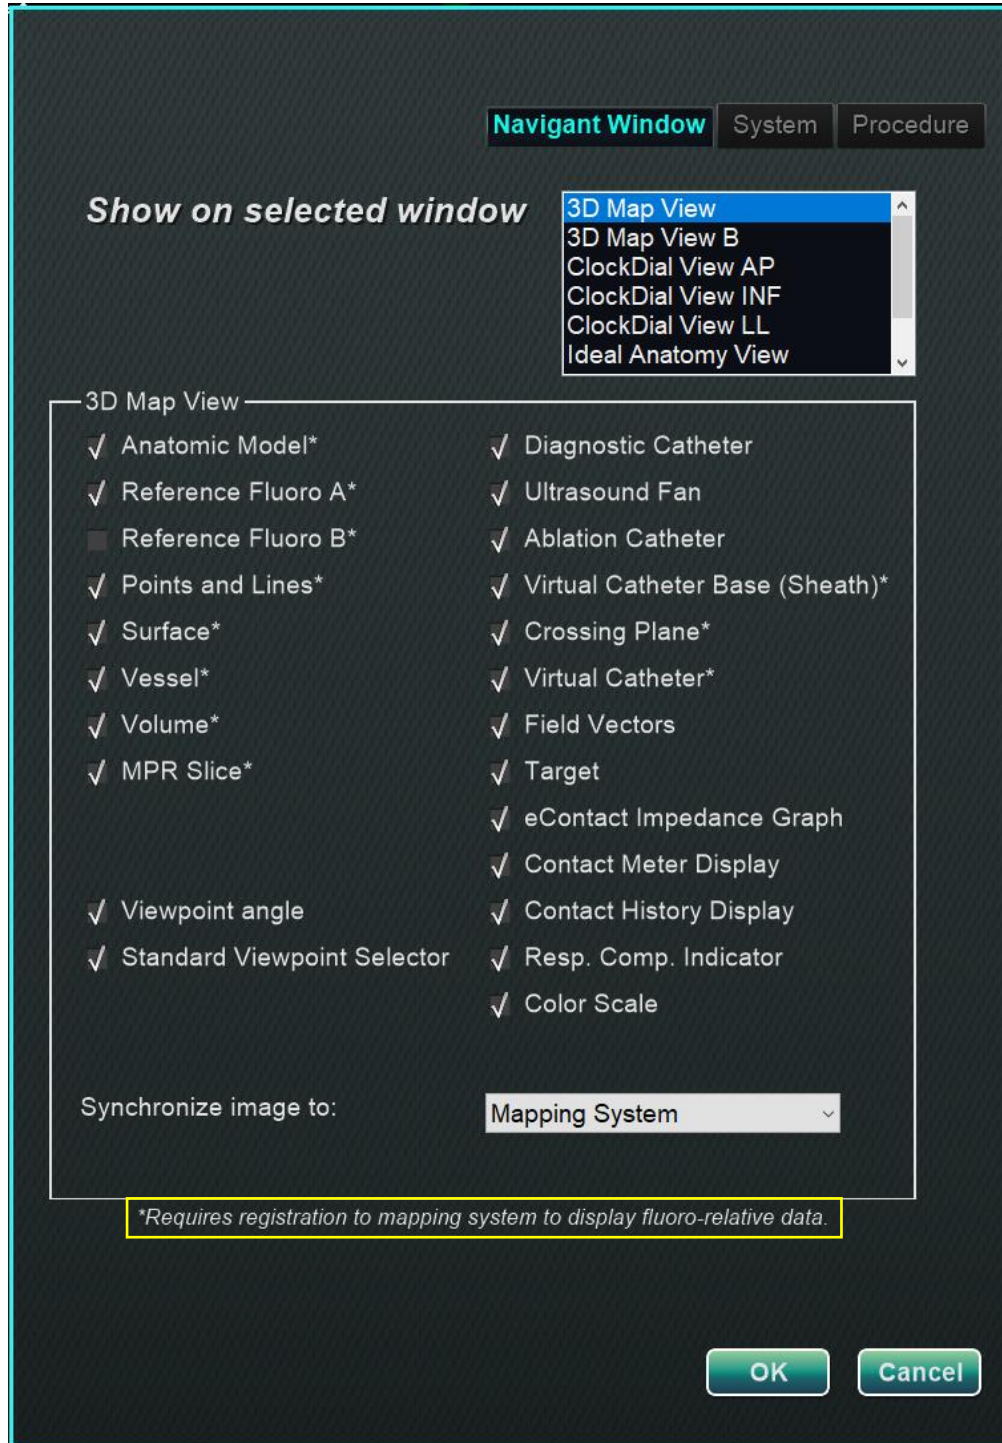

Figure 103. Settings windows – *Navigant* tab with 3D Map View window selected
- ① **Please select window.** Select the desired window from the selections displayed and adjust settings as seen in **Figure 103**. (*3D Map View* and *3D Map View B* are also window options, found at the top of the window selection scrollbar.)
In **Figure 103**, 3D Map View has been selected. 3D Map View and 3D Map View B will display mapping system items. Upon registration to a mapping system, fluoro (x-ray) data will display (see the message emphasized by a yellow rectangle in **Figure 103**).
Click on the box to the left of the items (selected items will display a \checkmark) you wish to view. The 3D Map View window example in **Figure 103** shows typical selections for the 3D Map View window. If, for example, the Nav Fluoro A window is selected, the Reference Fluoro A box typically would be checked.